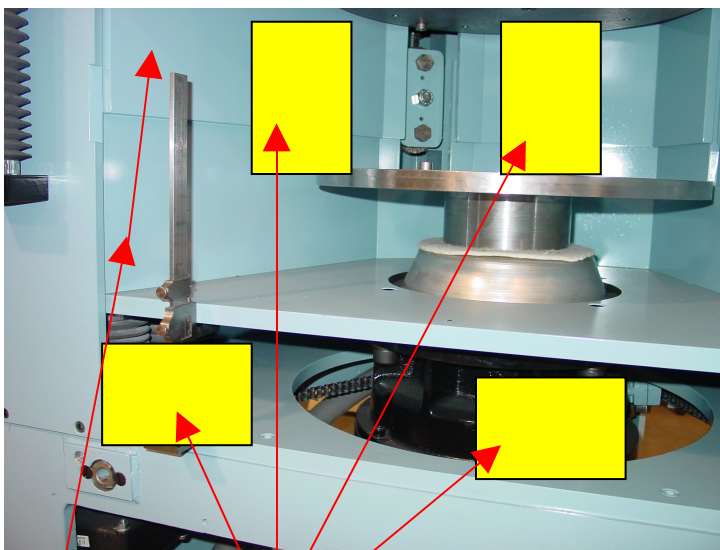

Figure 3
C. Unblocking the Grinding Heads (Figures 3,4 and 5 on page 4)
Surrounding the stones are thick top and bottom inner guards. **NEVER remove these inner guards.** (Reference Figure 3 on page 4)